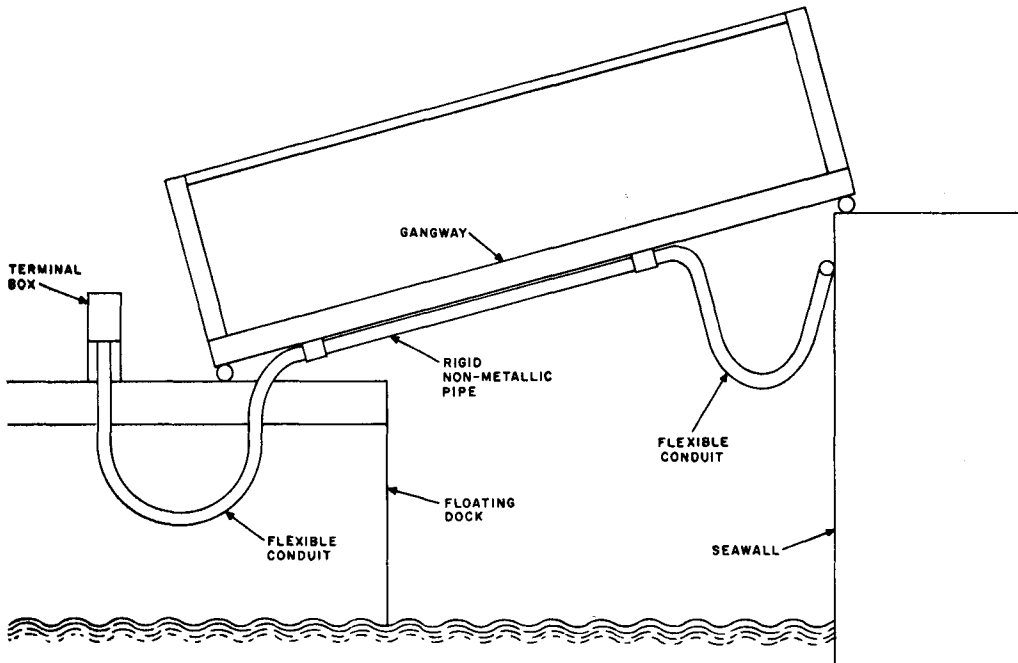

Fig. 23—Typical Shore to Dock Installation
3.13 If cable and terminals are not provided from the shore to the docks, wiring should be attached to the gangway. Fig. 23 shows a typical method for floating docks. Rigid nonmetallic pipe should be fastened to the gangway. Flexible metal conduit should be used at the shore and dock ends to allow for motion due to rise and fall of docks. Where the docks are rigid, no flexible metal conduit is required.